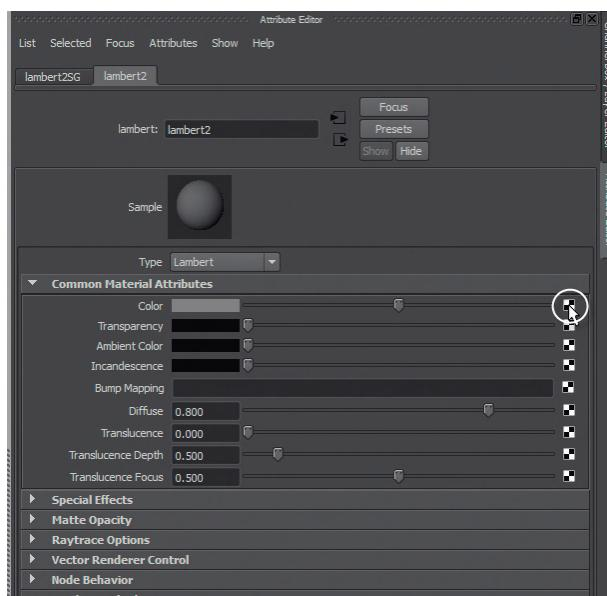

FIG 5.7 Using the Attribute Editor to use an image to define the color of this new material.
Step 5: Define a checker pattern for the color attribute of the material. After the last step, the Attribute Editor should automatically pop up and look like Fig. 5.7. At the far end of the Color slider is a little checkerboard square – click this to tell Maya to use an image to define the color. Note that this does not make the color a checkerboard automatically (despite what the button looks like). A new window called the Create Render Node will pop up. Click on the Checkerboard button there.